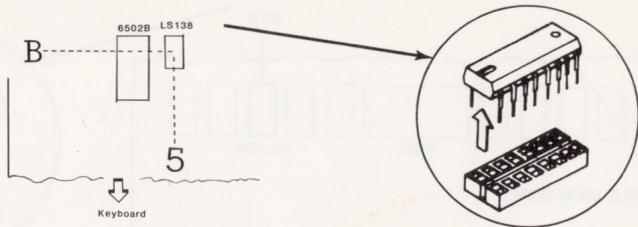

Figure 1-4 IC B5 Location
- 1e. Remove 74LS138 integrated circuit (IC) at location B5 (refer to Figure 1-4) by gently working it free from its socket. We recommend that you use an IC puller (available from your dealer). Do not bend the IC leads as it will be difficult to re-install.